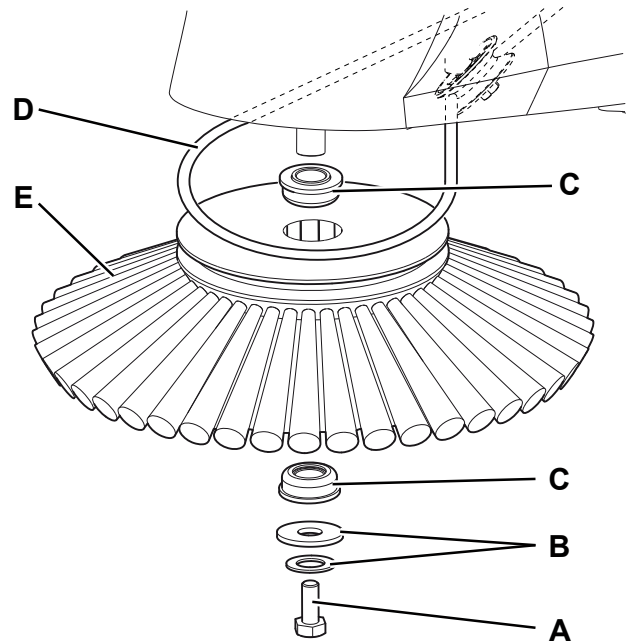
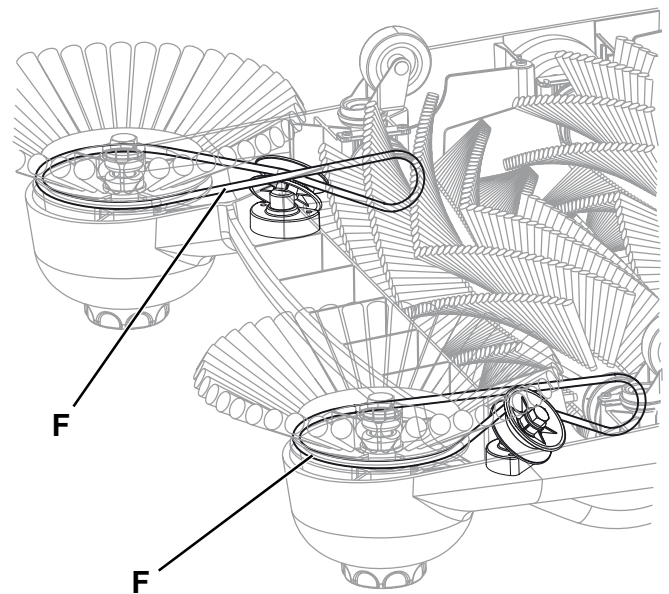

Figure 3
Figure 4
2. Remove the screw (A, Fig. 3), and keep the washer (B) and the bearings (C) for reassembly.
3. Remove the driving belt (D) and the side broom (E).
- Install the driving belt (F, Fig. 4) as shown.